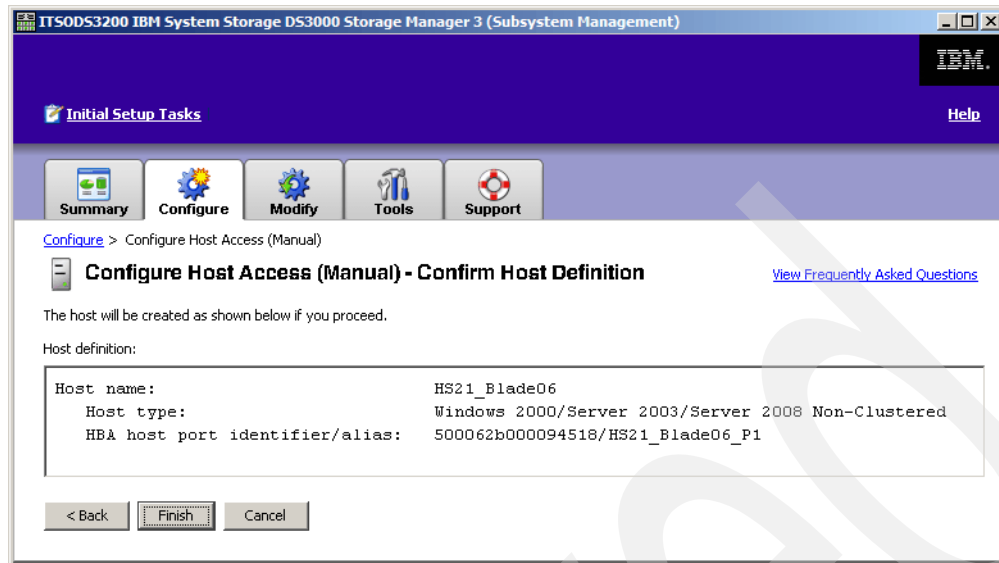

Figure 20-30 Host access confirmation
- The next window shows all the selected parameters. Check to ensure that they are correct and click **Finish** to complete the step, as shown in Figure 20-30 on page 467.